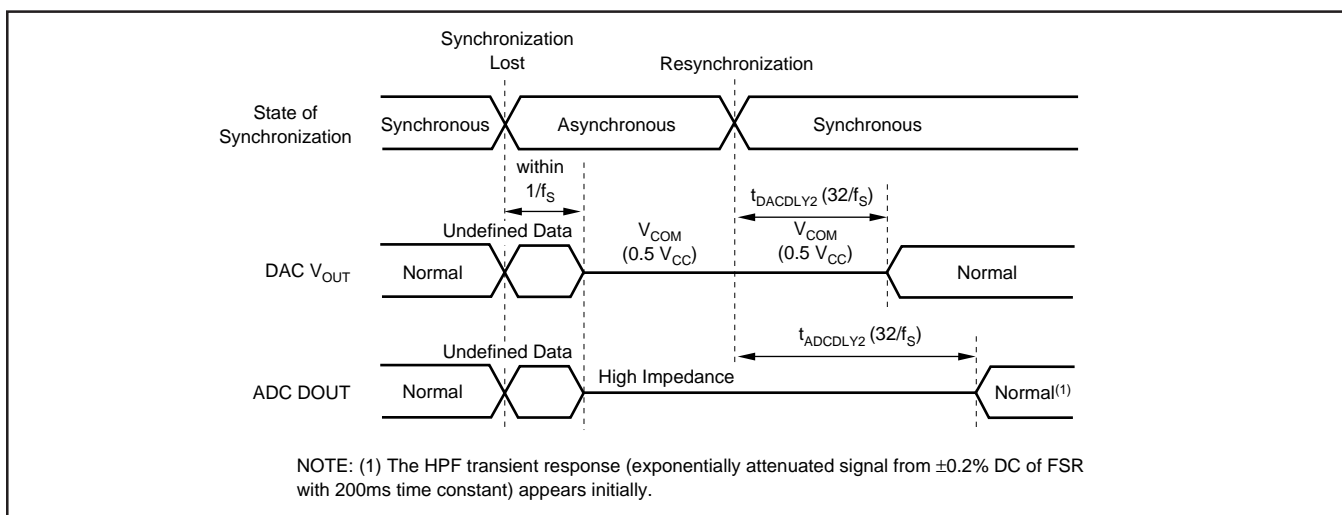

FIGURE 10. Loss of Synchronization Operation and Timing.
The PCM3501 requires that FS and BCK be synchronous with the system clock. Internal circuitry is included to detect a loss of synchronization between FS and the system clock input. If the phase relationship between FS and the system clock varies more than ± 1.5 BCK periods, the PCM3501 will detect a loss of synchronization. Upon detection, the DAC output is forced to $0.5V_{CC}$ and the DOUT pin is forced to a high impedance state. This occurs within one sampling clock (FS) period of initial detection. Figure 10 shows the loss of synchronization operation and the DAC and ADC output delays associated with it.